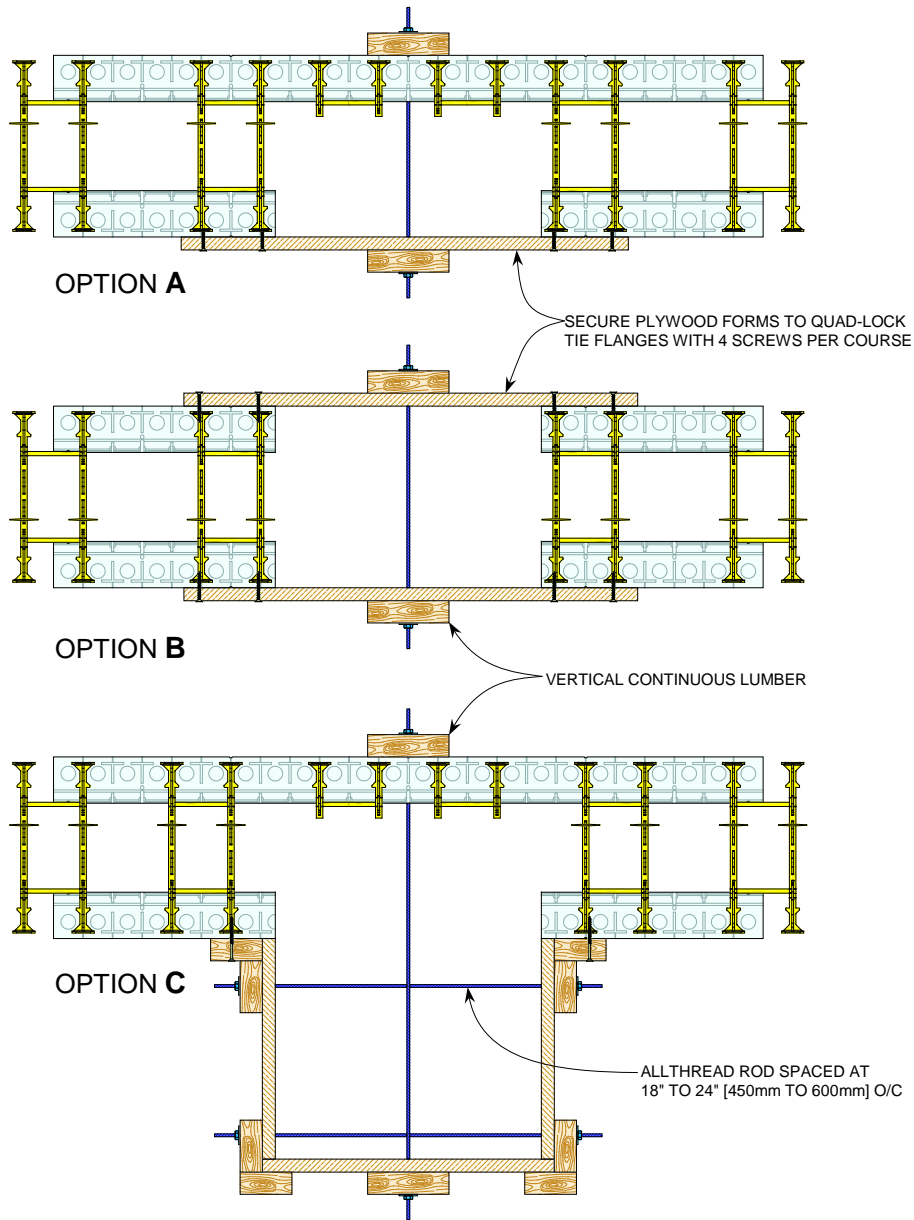

Figure 68: Pilasters formed with Plywood & Threaded Rod
- Assemble a "Z" shaped brace and fasten to the ties that are next to the transition. (shown below in Figure 68)